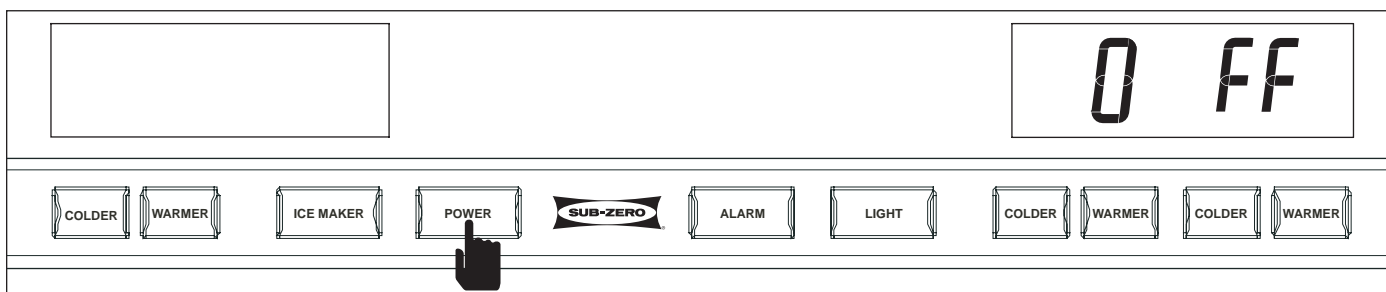
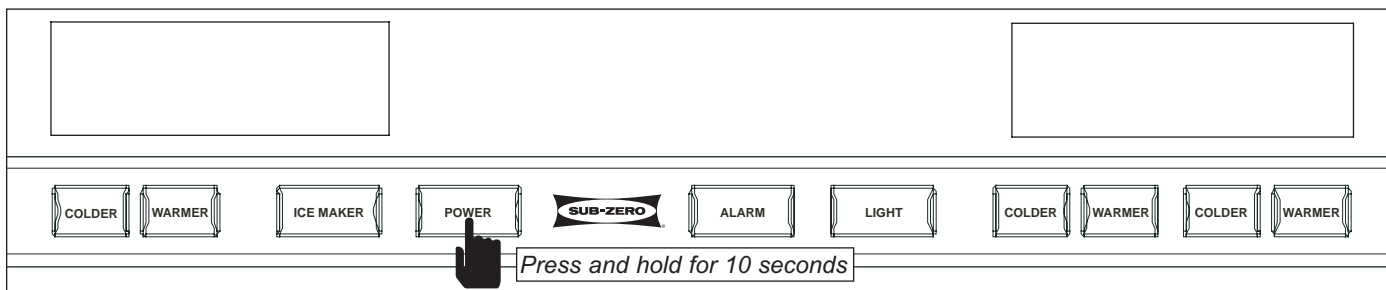

Figure 3-14. To Enter Sabbath Mode, Switch Unit OFF First
Figure 3-15. Then Press and Hold POWER Key for ten (10) seconds
To initiate Sabbath Mode, the unit must first be switched OFF using the POWER key (See Figure 3-14), then press and hold the POWER key until the User Displays and lights switch OFF, the alarm emits a quick series of beeps, and “Sabbath Mode” appears on the Technician Display (See Figure 3-15). This will take approximately ten (10) seconds. To return to normal operation, switch the unit OFF, then back ON.